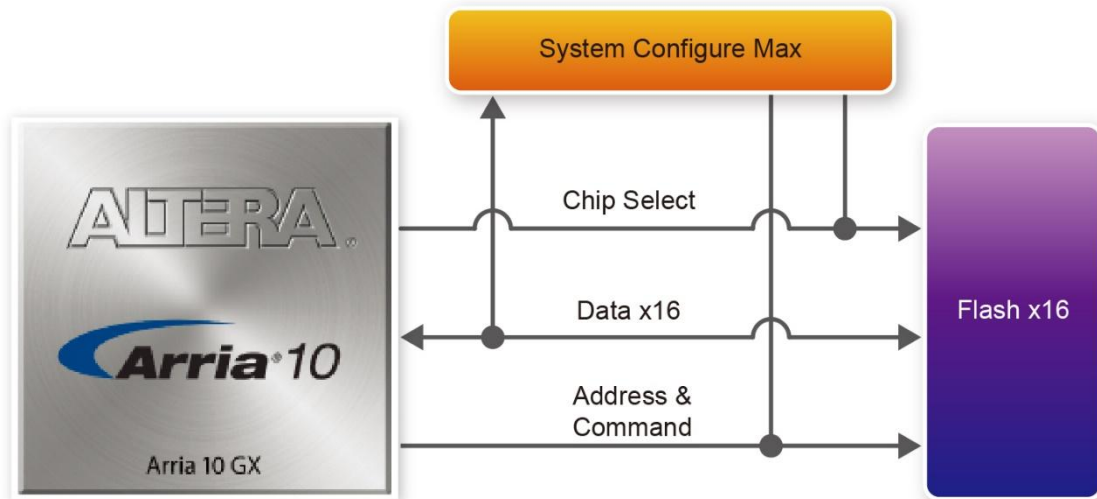

Figure 2-11 Connection between the Flash, Max and Arria 10 GX FPGA
Each interface has a 16-bit data bus and the device combined allow for FPP x16 configuration. This device is part of the shared flash and MAX (FM) bus, which connects to the flash memory and MAX V CPLD (5M2210) System Controller. **Figure 2-11** shows the connections between the Flash, MAX and Arria 10 GX FPGA.